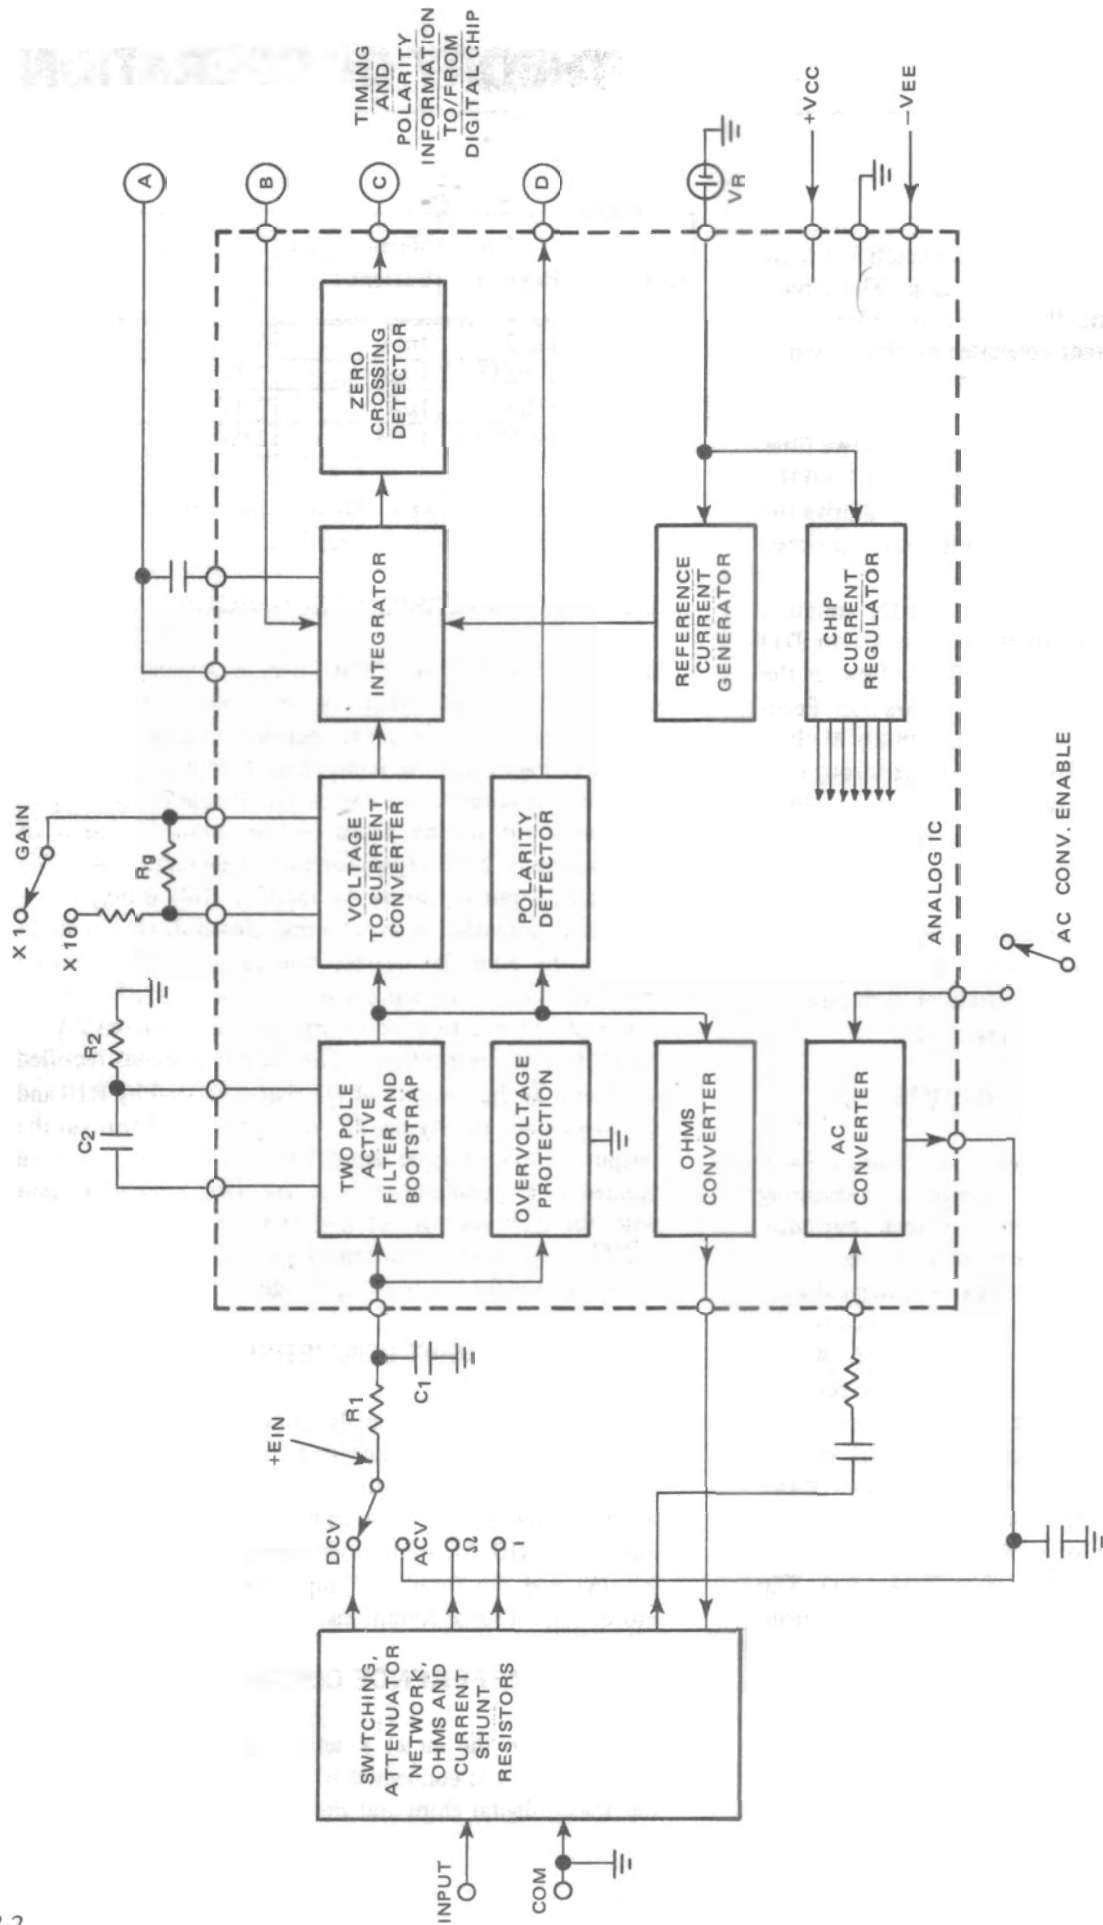
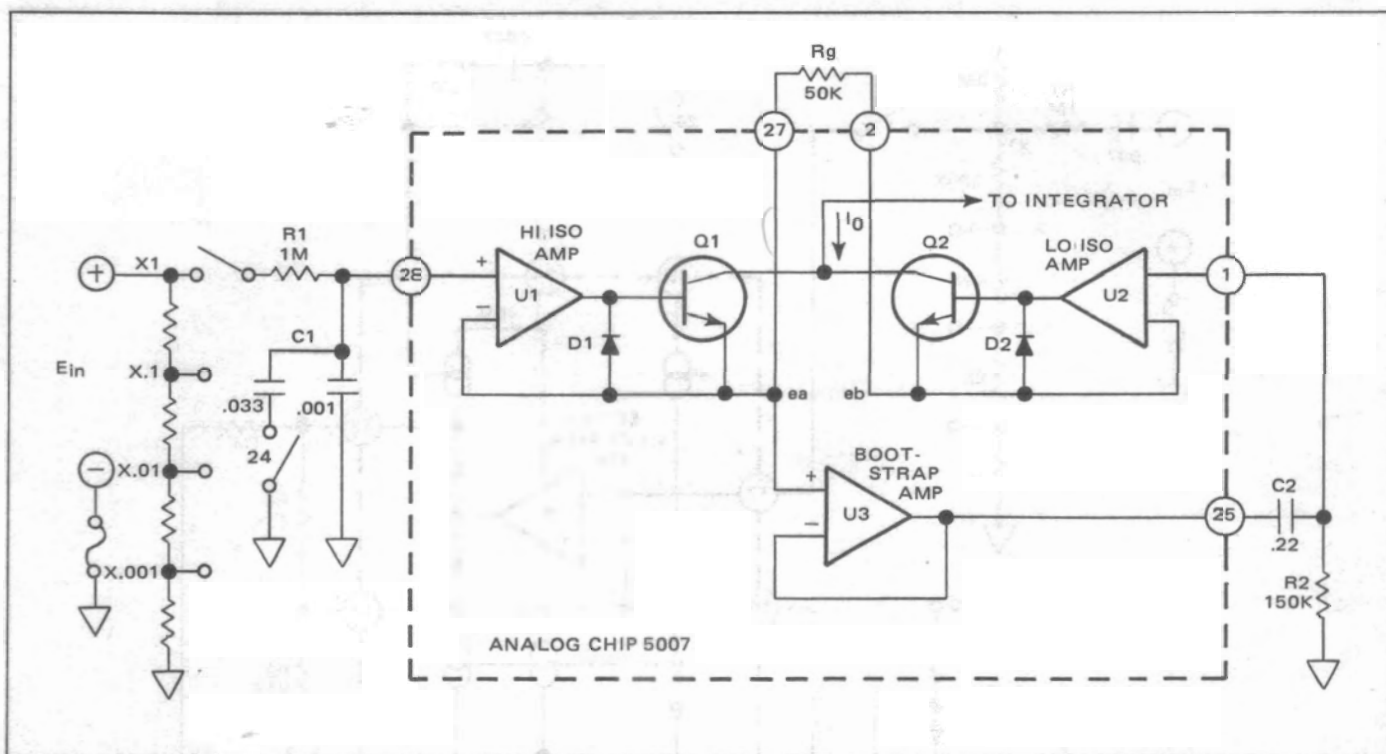

Figure 2.1 - Analog Chip Block Diagram
Figure 2.2 - (Isolator) Signal Conditioner/Voltage-to-Current Converter Functional Block Diagram
2.1.1 The block diagram in Figure 2.1 depicts the basic elements contained in the Analog LSI chip. The circuit shown in Figure 2.2 represents the 2-pole active filter/bootstrap and the voltage-to-current converter blocks of Figure 2.1. The configuration of U1 (signal or Hi isolator amp), U2 (Lo isolator amp), U3 (bootstrap amp) and the R-C discrete values (R1, C1, R2, C2) form a 2-pole low pass active filter to provide 50 dB of normal mode noise rejection @ 60 Hz, increasing 12 dB/octave. The output of U1 and U2 drive the voltage-to-current converter for the integration process.